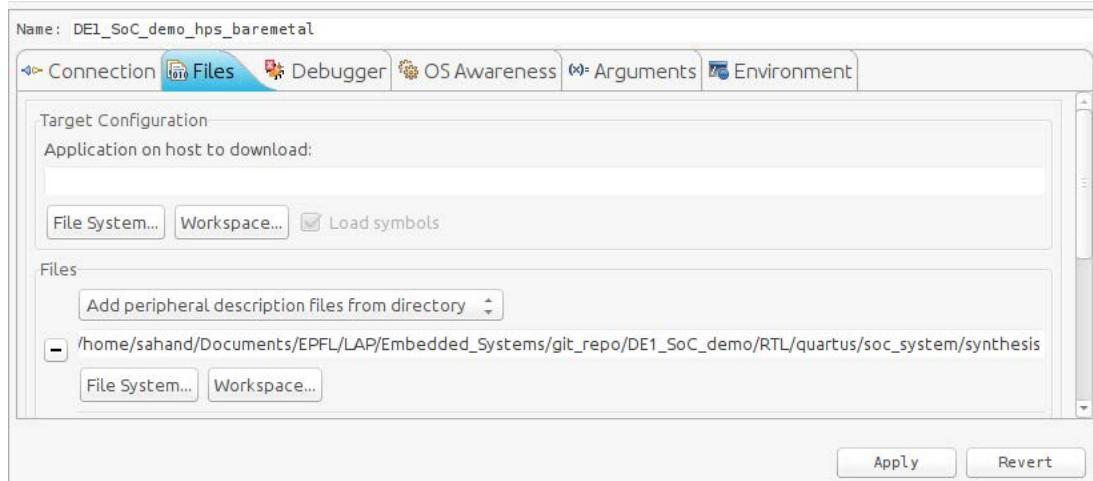

Figure 8-30. Debug Configuration "Files" Tab
- b. In 8.3.3.2, we configured our HPS to use some FPGA peripherals. We can instruct the debugger about this so it can show more detailed information when debugging. To do this, set the combobox to “Add peripheral description files from directory” and set it to the “DE1_SoC_demo/RTL/quartus/soc_system/synthesis” directory, as shown in Figure 8-30. This directory contains a file called “soc_system_hps_0_hps.svd” which has information on all of the HPS’ peripherals which are in the FPGA fabric.